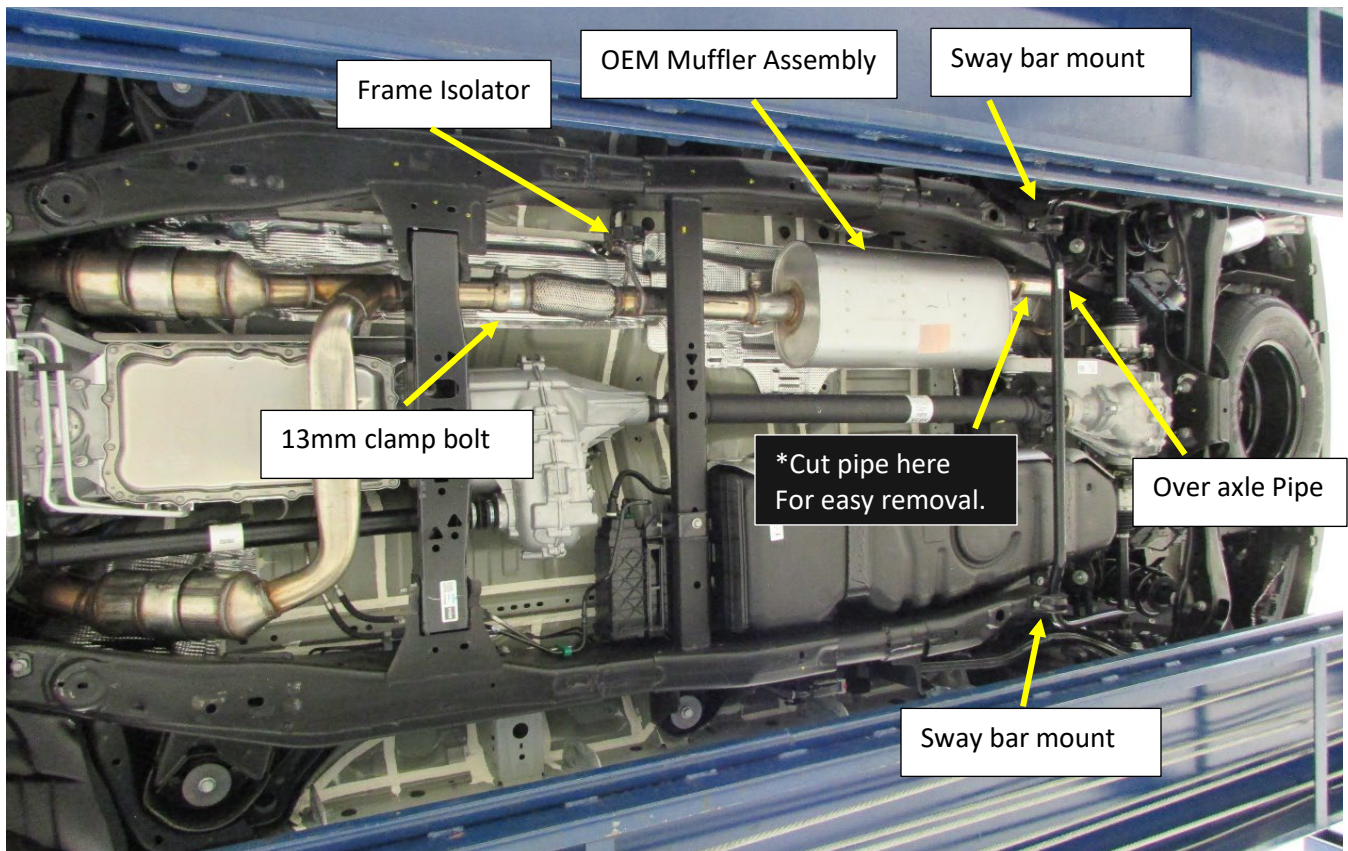

Figure.2
NOTE: Cutting the OEM exhaust is Not necessary but will make removing the OEM muffler assembly much less difficult Fig.2. Please read and follow all instructions before attempting to install this exhaust system.
3. Remove the 2x bolts at each Sway bar mount on the frame rail. Allow the sway bar to swing down, this will provide added room to remove the OEM muffler from the vehicle. **Fig.2**
5. Cut the outlet pipe just after the muffler to simplify removal (**skip to Step. 6 if not cutting**). Remove the hanger rod isolators and remove the over axle pipe. **Fig.2**
6. Loosen the 13mm bolt on the Band clamp just before the flex section of the OEM muffler inlet pipe. remove the isolator(s) on the frame rail and remove the OEM muffler assembly. **Fig.2**